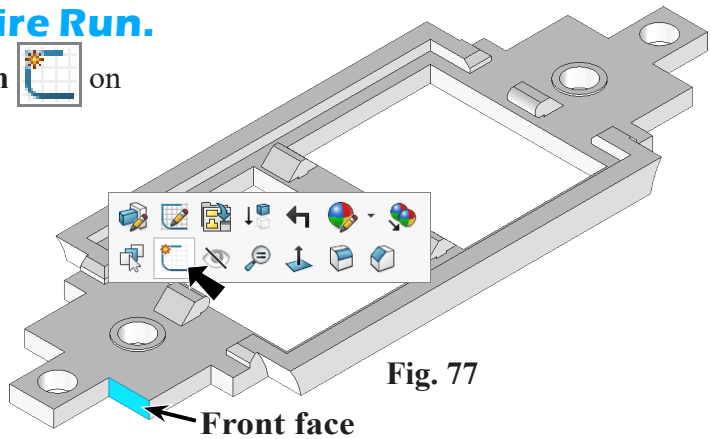

Fig. 77
Step 1. Click the **front face** and click **Sketch**  on the context toolbar, **Fig. 77**.